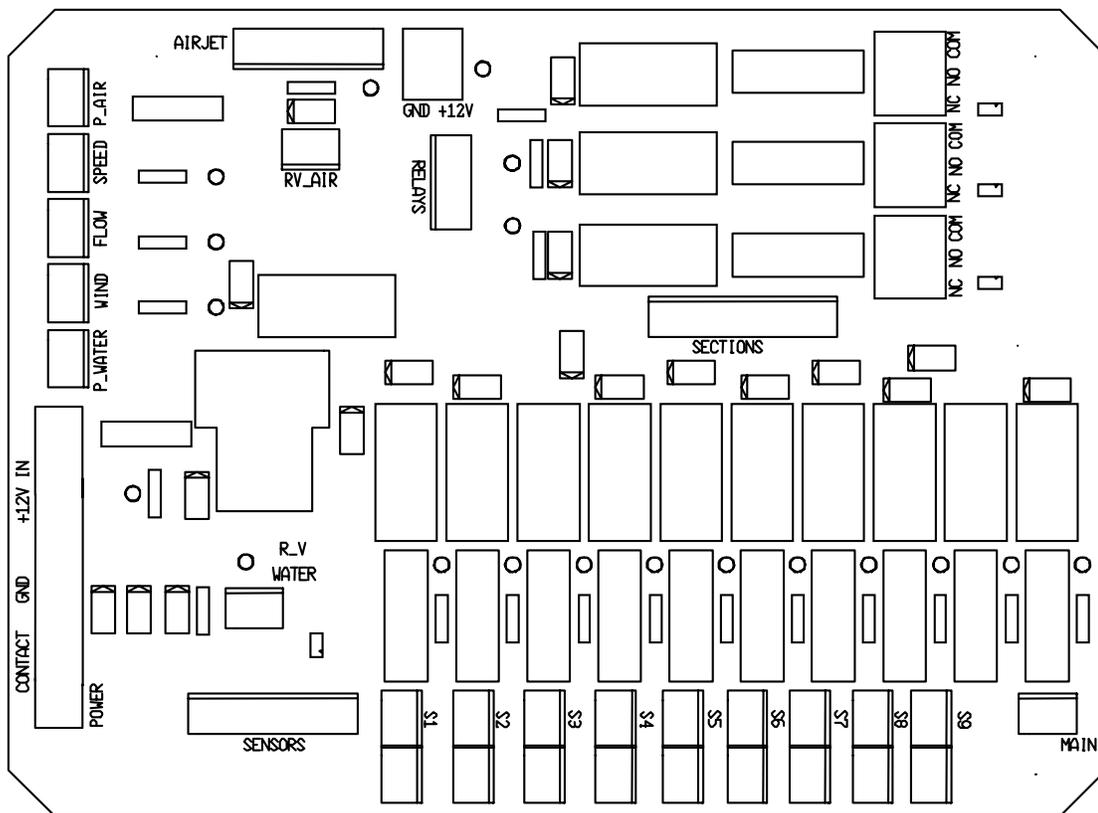
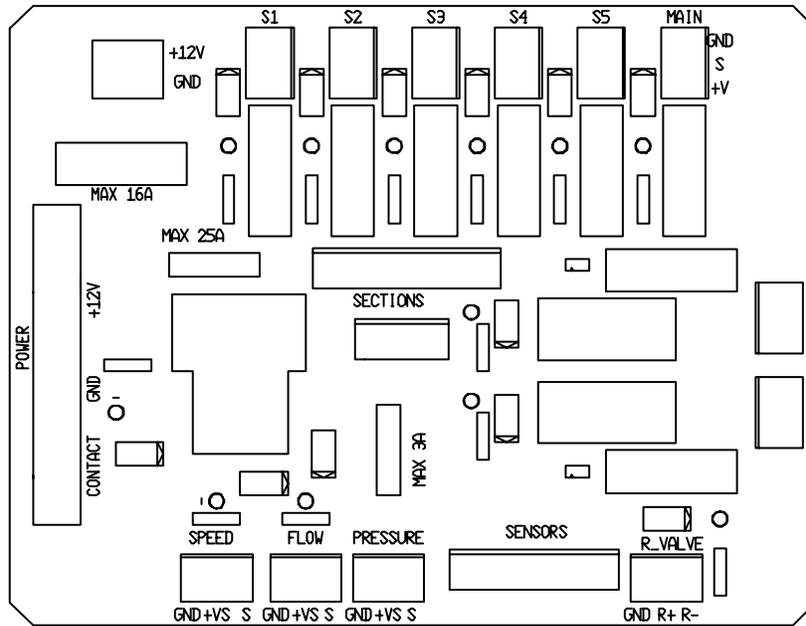

Fig. 29 PCB of Junction Box Model 15
Fig. 30 PCB of Junction Box Model 8
Connect the pressure sensor to the connector labeled P_WATER in junction box Model 15 (see Fig. 29) or to the connector labeled PRESSURE in junction box Model 8 (see Fig. 30).
- **Model 15** : up to 9 section valves, Master valve and maximum 5 extension relays (see Fig. 29)
- **Model 8**: up to 5 sections, Master valve and maximum 2 extension relays (see Fig. 30)